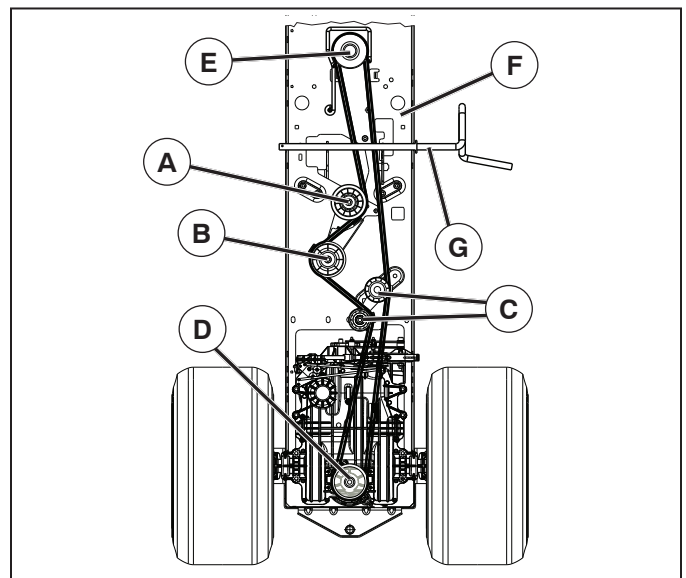

Fig. 34
TO REPLACE MOTION DRIVE BELT (See Fig. 34)
- Move the shift plate on front of transmission so that the extruded area centerline is in line with the dynamic brake arm. (See Fig. 34)